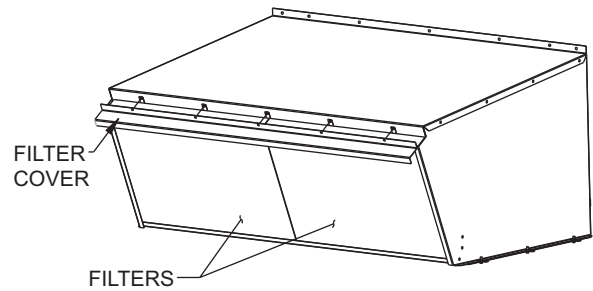

Fig. 40 — Slide Two Filters
14. Slide two 20 x 25-in. filters into cross members of hood assembly. Attach filter cover over filters with screws and speed clips provided. See Fig. 40.